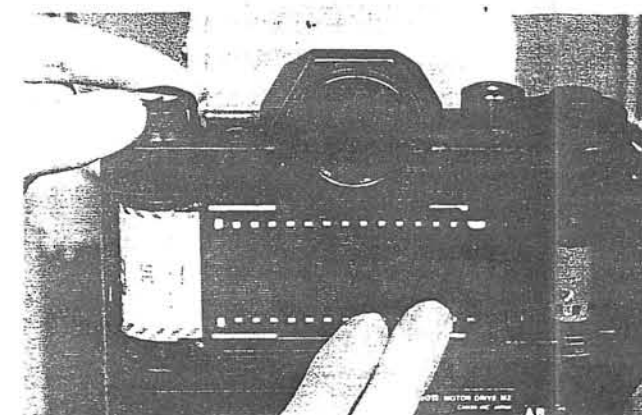

Fig. 23
6. Check that the film is taut and that the cartridge is not loose in its compartment. If the film is not taut, get rid of film slack by quietly turning the rewind crank clockwise until the slack is taken-up. (Fig. 23)